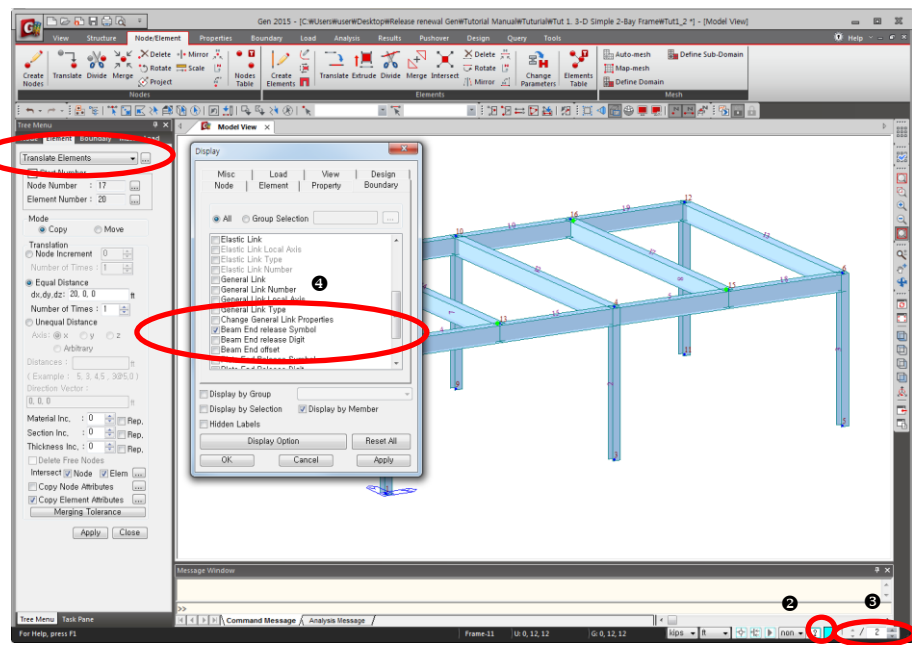

Figure 1.11 Generation of Girders and Beams
2. Select **Create Elements** from the functions selection field (Fig.1.11-①).
Even if  Node Number is not toggled on, the attributes of snapped nodes can be easily verified using Fast Query (Fig.1.11-②).
3. Select **Boundary** from the **Model Entity** tab (Fig.1.11-③).
6. Select **Element** from the **Model Entity** tab (Fig.1.11-④).
midas Gen allows mouse snap at the centers of the elements as well as any particular point in the elements by using Snap located at the bottom of the screen (Fig.1.11-⑤).
19. Select **Boundary** tab (Fig.1.11-④).